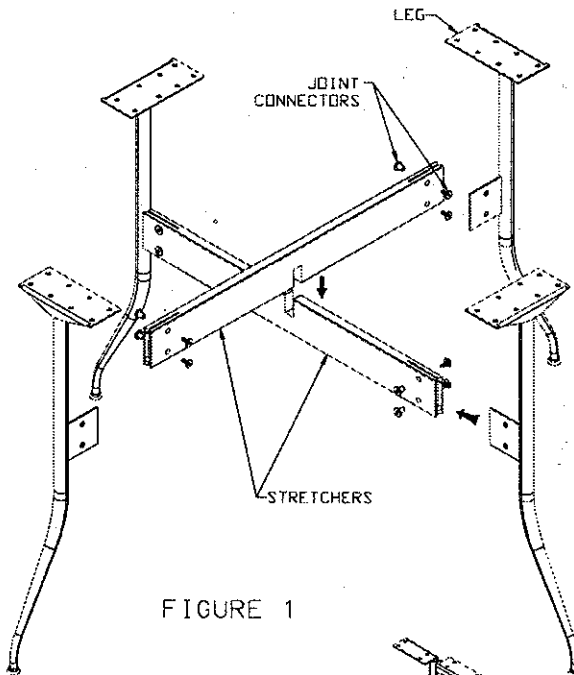

FIGURE 1
2. ASSEMBLE STRETCHER(S) TO LEGS. SEE FIGURE 1 OR 2. TIGHTEN JOINT CONNECTORS (MALE AND FEMALE) USING TWO ALLEN WRENCHES.